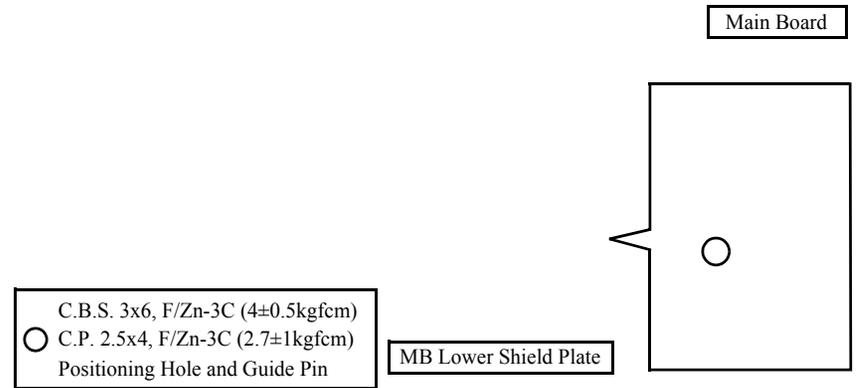

Figure 4-23. Removing the Main Board (2)
- **Align the positioning holes of the Upper Shield Plate with the guide pins of the Main Board as shown in Figure 4-23.**